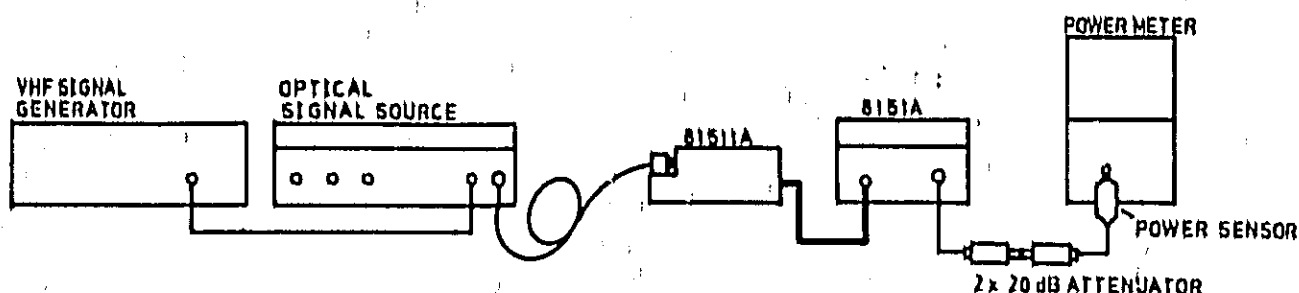

Figure 4-16. Test setup for VHF measurement flatness tests > 10 MHz.
11. Connect the equipment as shown in Figure 4-16.
19. The flatness (X) of the 8151A is calculated as follows: